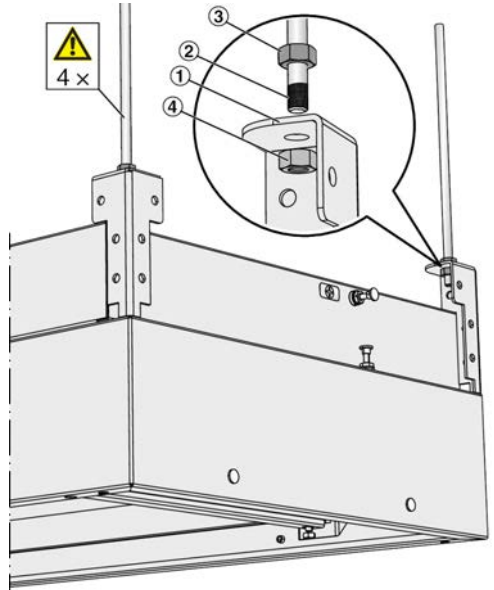

Fig. 2: Fixing
- ① Suspension lug with drilled hole  $\varnothing$  12 mm
- ② Threaded rod
- ③ Lock nut
- ④ Nut
- ▶ Fix any suspension elements, e.g. threaded rods (Fig. 2/2), to the ceiling.
- ▶ Start by suspending the TFM casing on three suspension lugs (Fig. 2/1); ensure that the casing is horizontal, fix the nuts accordingly (Fig. 2/4), then use the locknuts (Fig. 2/3) to secure the suspended casing.